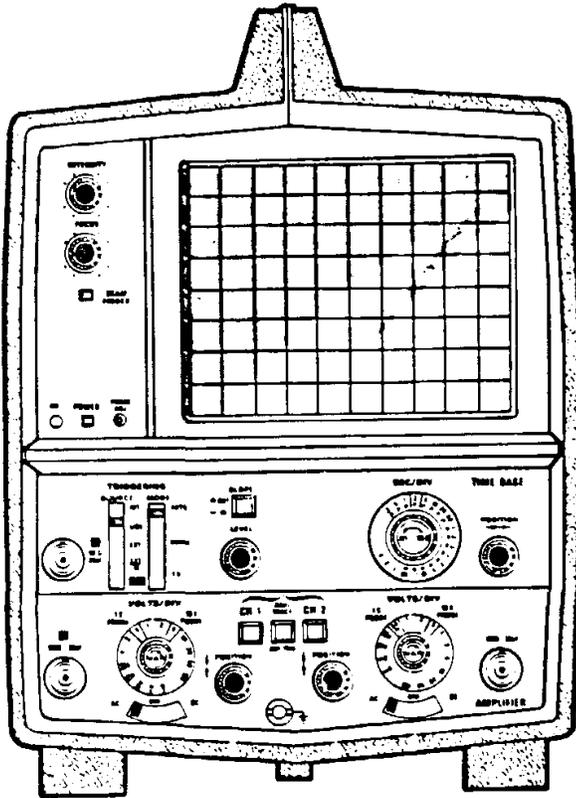
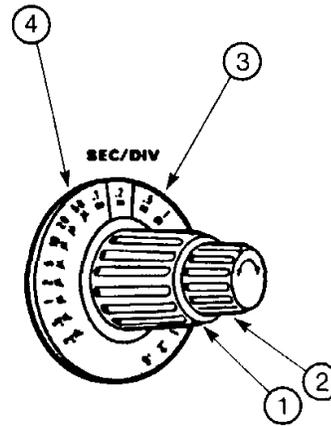
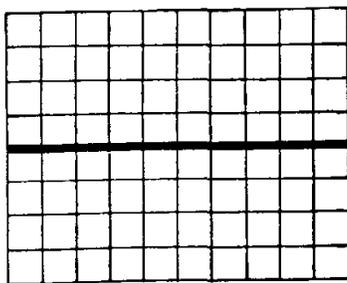

FIGURE 3
FIGURE 3A
FIGURE 4
14. Set the Sec/Division dial (Figure 3, #6) to .2 MSec/Div (2/10 of a millisecond/div) by turning the back section of the dial (Figure 3A, #1).
CAUTION: Do not turn the front section of the Sec/Div dial as this will cause the scope to go out of calibration. (Figure 3A, #2).
NOTE: The millisecond (M) settings are on the one side of the dial, the microsecond (u) settings are on the other side. (Figure 3A, #'s 3 and 4).
15. Set the INT/EXT triggering source switch for "INT". (Figure 3, #7).
16. Set the reference switch to DC. (Figure 3, #8). Use the vertical position dial (#9) to center the pulse on the center line of the scope display. (Figure 4).
17. Remove the rocket cover from the probe tip. Connect the probe tip to the "probe adj." slot on the oscilloscope. (Figure 3, #10).
18. Turn the vertical position dial to center the trace on the scope display. (Figure 3, #9).
19. Adjust the focus (Figure 3, #11), the beam intensity (#12), and the level (#13) dials if necessary in order to get a clear display.